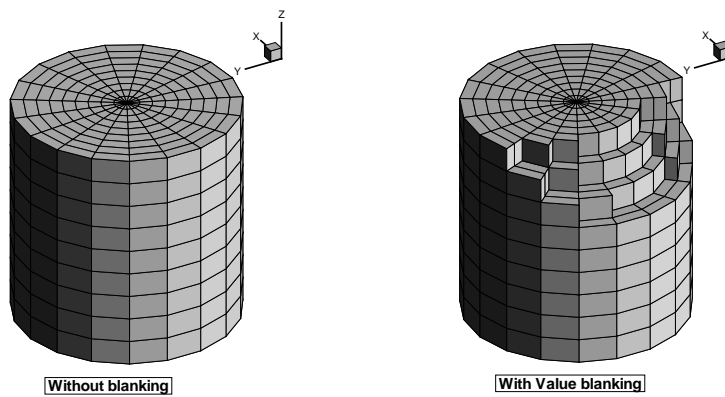

Figure 21-3. Examples of plots where Surfaces to Plot has been set to Exposed Cell Faces with (left) and without (right) value-blanking.
- **Exposed Cell Faces (Default):** This setting is similar to the Boundary Cell Faces setting, save for cases in which value blanking is turned on. When value blanking is used the outer surfaces are drawn, similar to results from the Boundary Cell Faces setting. In addition, the cells faces between blanked and non-blanked cells are drawn. Figure 21-3 shows a plot of a volume zone with Surfaces to Plot set to Exposed Cell Faces with and without value blanking.